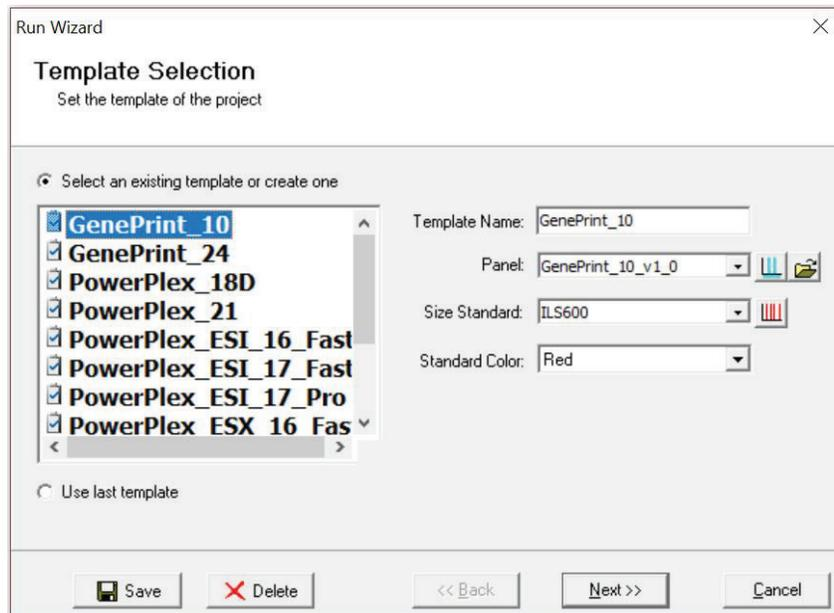

Figure 30. The 'Template Selection' window.
8. Click on **Run** in the Magic Wizard or click the **Run Project** icon (green arrow) in the toolbar. The 'Template Selection' screen will appear (Figure 30). Select the GenePrint_10 template and the settings shown in Figure 30. Verify the panel that you created in Step 6 is selected in the Panel drop-down field. The Size Standard must be ILS600 and the Standard Color must be Red. Select **Next**.